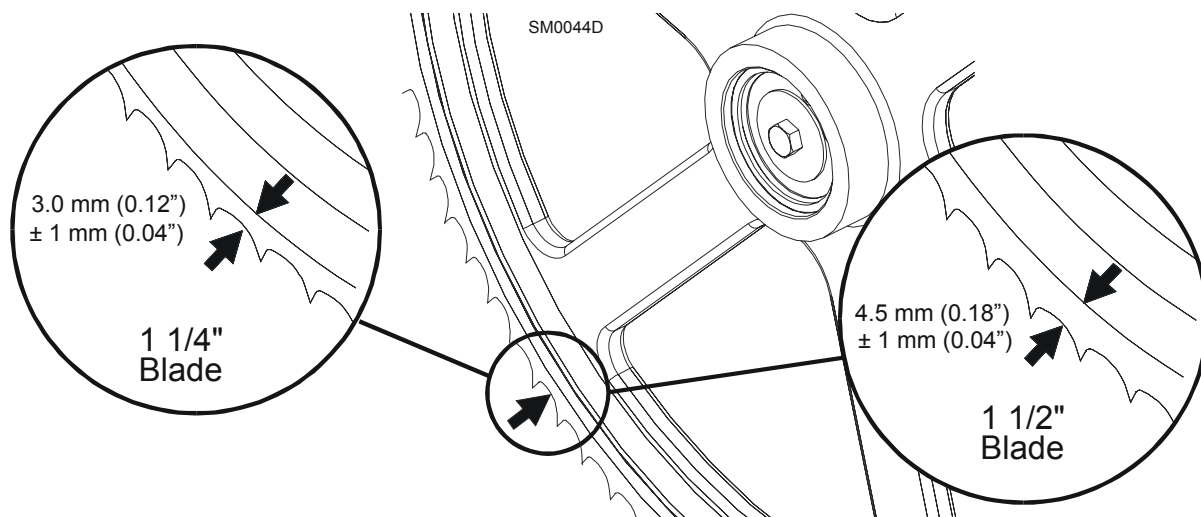

FIG. 3-2
**See Figure 3-2.** Position 1 1/4" wide blades so the gullet is 1/8" (3.0 mm) out from the front edge of the blade wheel ( $\pm 1/16$  [1.5 mm]). Position 1 1/2" blades so the gullet is 3/16" (4.5 mm) out from the edge of the blade wheel ( $\pm 1/16$  [1.5 mm]).